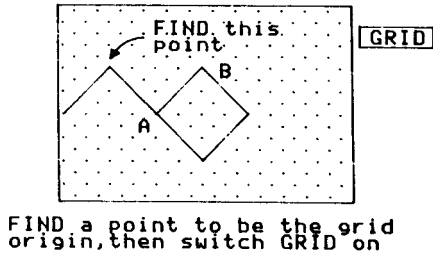

Fig 3
- 10 Select Menu 2, then switch the GRID flag on. The 8 X 8 grid is now aligned with AB in Fig 3.